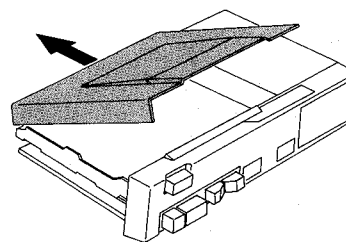

Fig. 4
2) Slide the cassette lid in the direction of the arrow and take it off. (See Figure 4.)